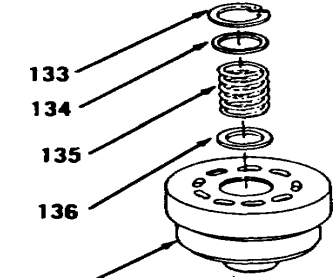

Figure 10-43.
- 34. Using protective plate and arbor press, install spacer (136), spring (135), spacer (134) and ring (133) on barrel (138, Figure 10-43).